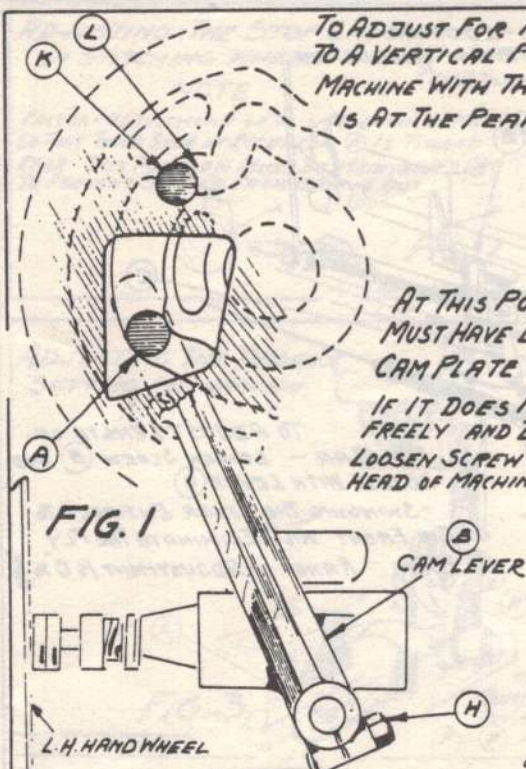

FIG. 1
CRANK THE MACHINE UNTIL THE ROLL (A) ON LEVER (B) IS AGAIN DEFINITELY EMBRACED BY CAM PATH (L) ON THE CAM AT (K) FIG. 1-AT THIS POINT PLUNGER (M) SHOULD HAVE JUST WITHDRAWN FROM SLOT BY ACTION OF BRACKET (N) AGAINST LEVER (P) IF NOT, ADJUST BRACKET (N) TO SUIT BY LOOSENING SCREW (Q)
Make sure machine is in its normal stopping position. Loosen screws (F) and (G) and rotate Cam (H) to the point where Pin (D) is at the very top of the Cam rise at (E) as shown Fig. 1. Then tighten screws (F) and (G) securely.
To decrease the length of Starting Thread at (J) adjust the position of Cam (H) as required in the direction of arrow marked Less Fig. 1.
In order for the Thread Grabber to swing through its full arc and hold the thread as shown Detail A, the machine must be adjusted to stop in its extreme forward position. For instructions to obtain this adjustment refer to Sheet 17, Fig. 1.